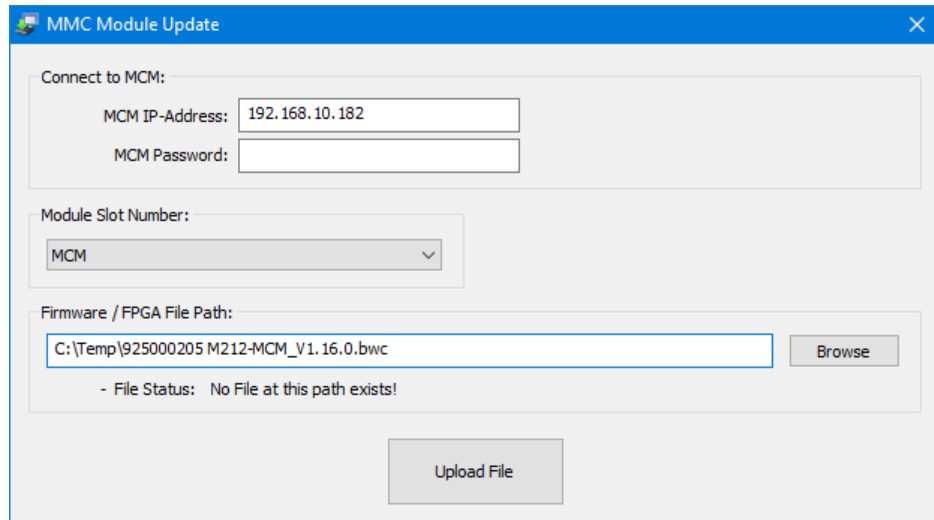

Figure 25. MMC Module Update Application
3. Launch the MMCMModuleUpdate.exe (v1.4 or later). Once launched, the application should appear like it does in Figure 25.